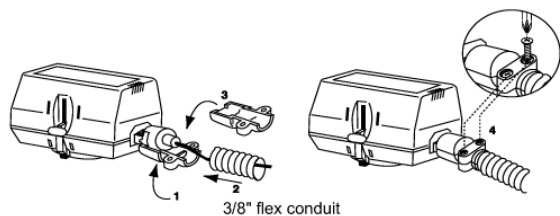

Fig. 3. Flexible conduit attachment.
2. Connect leadwires. See Fig. 3 for flexible conduit installation with plenum-cable models.